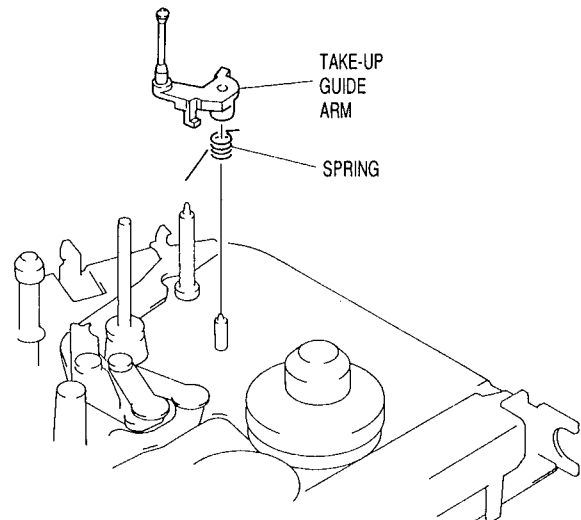

Fig. 3-27
- 1) Release the spring between the take-up guide arm and chassis. (See Fig. 3-27)